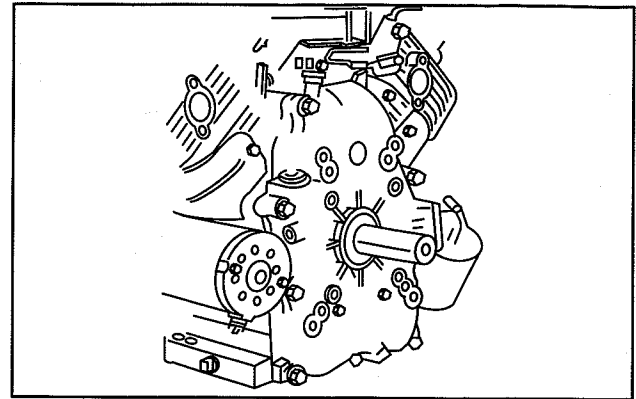

Fig. 8 – Remove Crankcase Cover
5. Remove crankcase cover, Fig. 8.